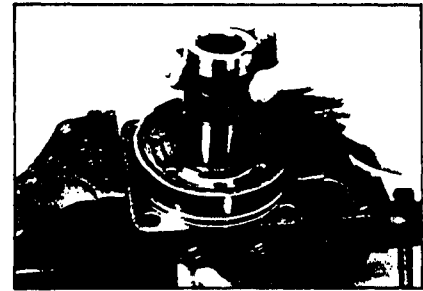
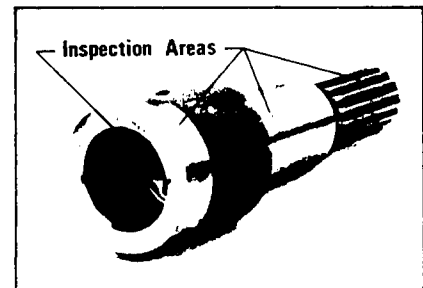

Figure 20
Figure 21
- 15. Remove coupling shaft (12), by pushing on the output end of shaft. SEE FIGURE 20. Inspect coupling shaft bearing and seal surfaces for spalling, nicks, grooves, severe wear or corrosion and discoloration. Inspect for damaged or worn internal and external splines or keyway. SEE FIGURE 21. Replace coupling shaft if any of these conditions exist.